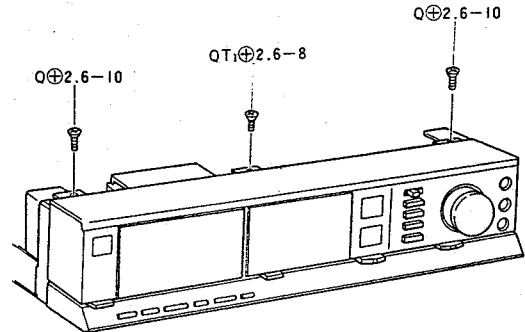

Fig. 5
2) Remove 3 screws to remove the front panel. (See figure 5)